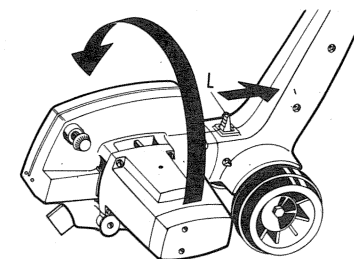
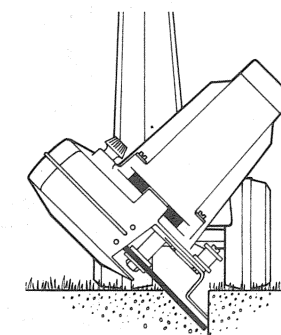
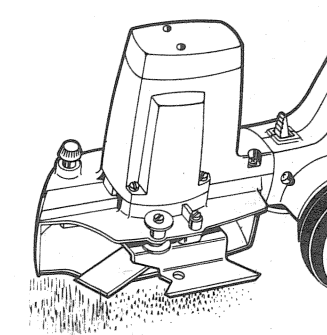

FIGURE 10
FIGURE 11
FIGURE 12
2. Push button "L", Figure 10, in direction of arrow, holding it back momentarily as you start to rotate the cutting head. Release the button, continue rotating, and the cutting head will snap into a locked, 45° position for TRENCHING. In this position (Figure 11), the tool will cut a "V"-shaped trench along the edges of flower and shrubbery beds, and around trees in preparation for sod removal. Be careful not to tip the front of the tool too far downward or it will dig too deep and stall the tool.
3. To put the cutting head in the TRIMMING position (Figure 12), hold the button ("L", Figure 10) back until you rotate the head past, or out of, the 45° Trenching position. Release button, continue rotating, and the head will snap into the locked, 90° Trimming position. Now, with the blade parallel to the ground, you can roll the tool forward for grass trimming. Trimming will be most efficient with a new or sharpened blade, as edging and trenching dull the cutting edges of the blade because of dirt abrasion.